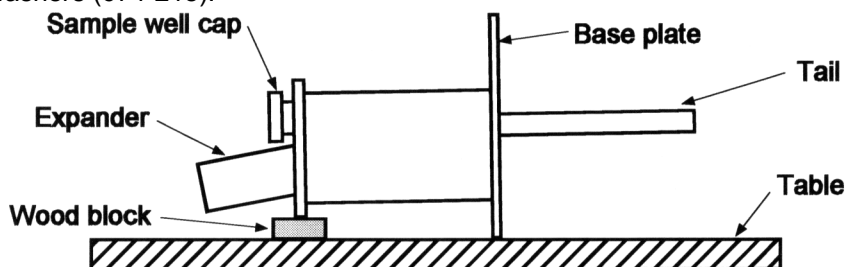

Figure 4-22. OmniPlex Orientation on Table Surface
- Lift the OmniPlex back on the table and orient as shown in Figure 4-22. Use a wood block to keep the OmniPlex from resting on the expander. A 2×4 (40 mm thick) block is about right with the EM4 base, but a slightly thicker block is required with the EM7 base.